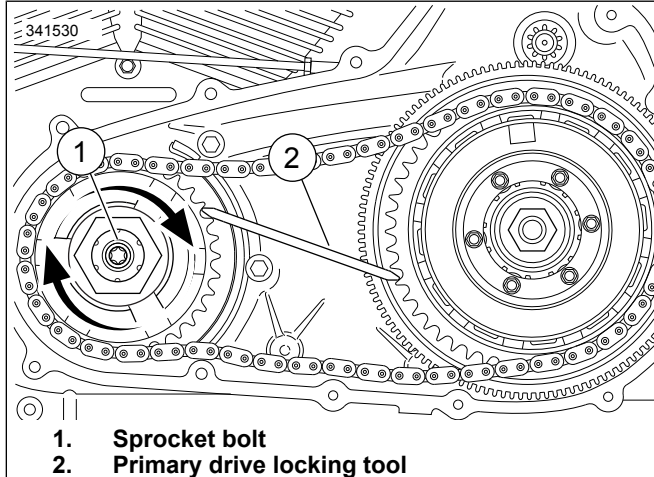

Figure 7. Installing Engine Compensating Sprocket Bolt
15. Lightly lubricate thrust washers (7) with a thin layer of primary chaincase oil. Install thrust washers (7), sprocket retainer (8) and screw (9). Hand tighten.
16. See Figure 7. Install PRIMARY DRIVE LOCKING TOOL between teeth of engine and clutch sprocket as shown.